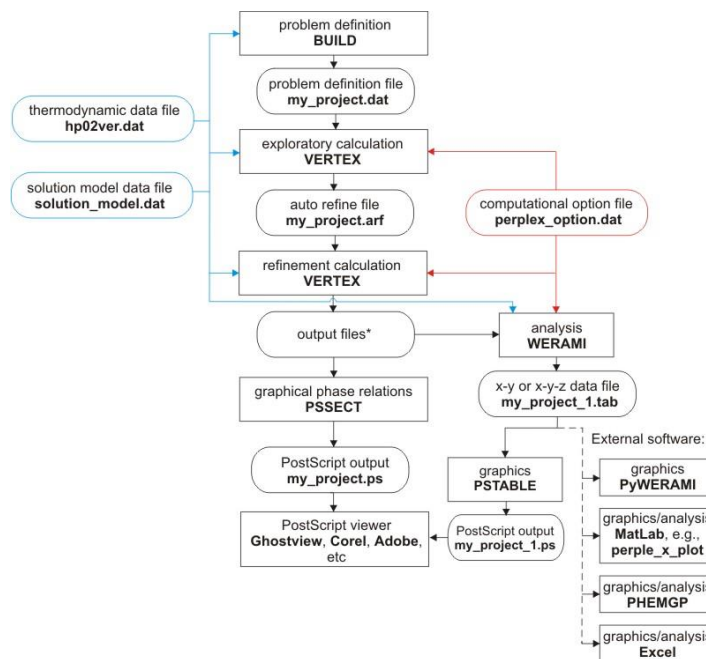

Figure 1. Program/file structure for the tutorial calculation with VERTEX.
Run BUILD (Figure 1) to set up the calculation of a P - T phase diagram section for $T = 673$ - 1473 K and $P = 30$ - 80 kbar by gridded minimization for a hydrothermally altered metabasalt with the molar composition: Na₂O 0.328; MgO 1.623; Al₂O₃ 1.497; K₂O 0.058; CaO 2.258; TiO₂ 0.138; FeO 1.370; SiO₂ 7.490; H₂O 1.460; CO₂ 0.659.
Step 3: Phase diagram sections, VERTEX (Figure 1)